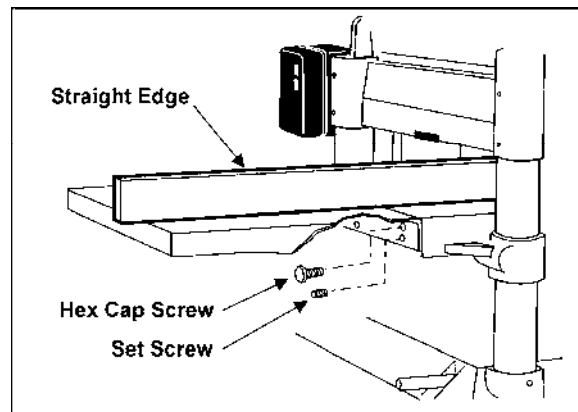

Figure 9
1. Mount a cast iron table to the edge of the main table with three M8 x 25 hex cap screws (Figure 9) using a 12mm wrench. Do not fully tighten yet.